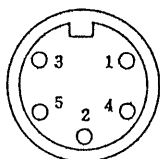

Figure 4.4
(5) The TEST/RESET switching function of the 916 can be remote-controlled with an external signal. The control system is of a low-active type. The control signal can be fed via the TEST/RESET REMOTE CONTROL connector. The pin assignment of the connector is as shown in Table 4.1 and the pin layout is as shown in Figure 4.4. The control method is identical with that of the 871. Refer to the operation manual of the 871 W/I Tester.